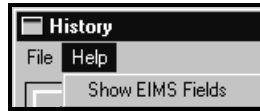

Figure 3-82. History Dialog - Help Menu
As shown in Figure 3-82, the **Help** menu on the **History** dialog contains only one (1) menu selection as shown. It is: **Show EIMS Fields**. This menu item is discussed below.
- ❑ **HISTORY > Help > Show EIMS Fields:** Selecting **Show EIMS Fields** from the **Help** menu on the **History** dialog shown in Figure 3-82 displays a text file that's designed to assist database management administrators with exporting history files from the Zetec EIMS database management system in the properly delimited text file format.